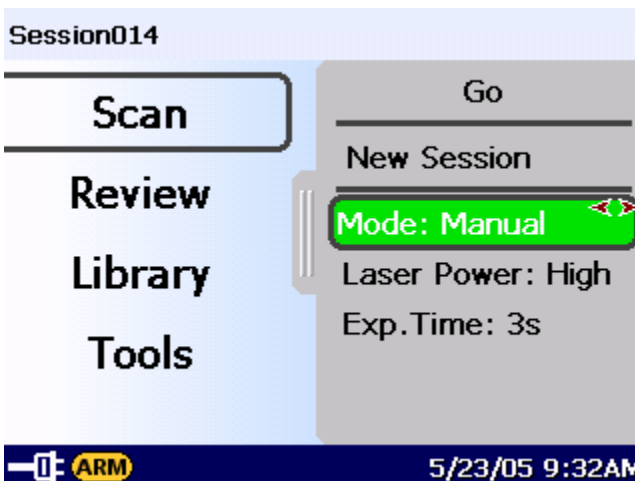

Figure 3-9: The Manual Mode Slide-In Menu
- c) *Manual (advanced only)*: This mode is used when the advanced user wants to manually control the exposure time used to collect the spectrum. Great care must be taken in the correct interpretation of the results in this mode. When this mode is selected, the slide-in menu shown in Figure 3-9 will be presented and the *Laser Power* and the *Exposure time* can be chosen. Moving the highlight to either option will present a screen to select the desired value.